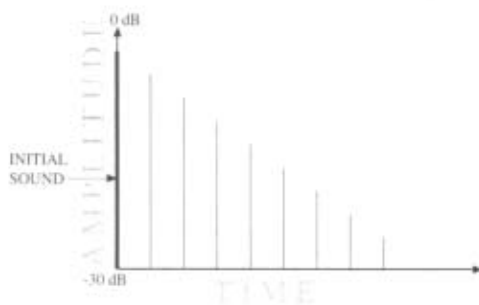

Fig. 4-5 Delay Feedback at 50%
- Delay Feedback (Tap #)**.....Controls the amount of feedback, or number of repeats, in the delay line. In multi-tap delays, this Parameter controls the feedback amount of the last tap in the series (see fig. 4-5). Variable from 0 (Off) to 99%.